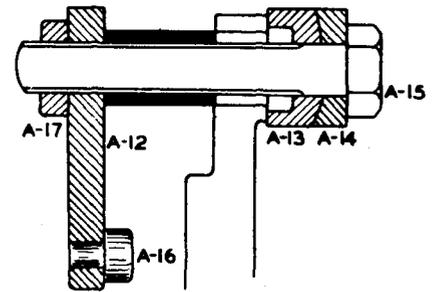

Fig. 30
(8) To insert a new tell-tale shaft bearing use the tool assembly as shown in Fig. 30. The parts to this tool assembly are marked A-12 to A-17 inclusive. Make certain that the oil hole in the bearing is lined up for the corresponding oil hole in the casting so that when the bearing is finally in place the hole in the bearing will coincide with the hole in the casting. Force the new bearing into place by tightening the A-17 nut until the .005" gauge (75D) is a slide fit between the A-16 button and the casting.
(9) Insert the tell-tale shaft in the new bearing and see if it turns easily. If it binds the bearing should be reamed using the AR-6 reamer. Care should be exercised when reaming this bearing that the reamer is held straight and in line with the center line of the bearing. If the reaming is out of line it will cause the tell-tale shaft to be out of line and the gears on it will not mesh properly with the other gears. After reaming make certain that all metal particles are cleaned out and that none have lodged in the oil hole.
(10) Aligning Tell-Tale Shaft and Secondary Gear Shaft: Insert the secondary gear shaft in its bearings holding the Std. 3270-A-101 gear in position so the shaft slides through it. Mount the Std. 3270-A-99 gear in position on the shaft. Tighten the set screws of both gears. Check that the shaft turns freely and without excessive end play. If it doesn't turn freely it may be that the hub of